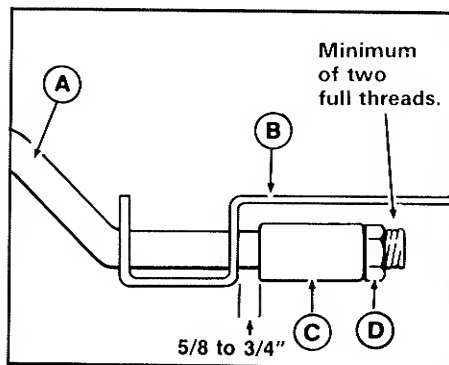

**Figure 29. Tightening the Shoulder Bolt**
13. Tighten the shoulder bolt while holding the control lever up firmly as shown in figure 29. If the lever moves down at all while retightening, loosen the shoulder bolt and go back to step 11.